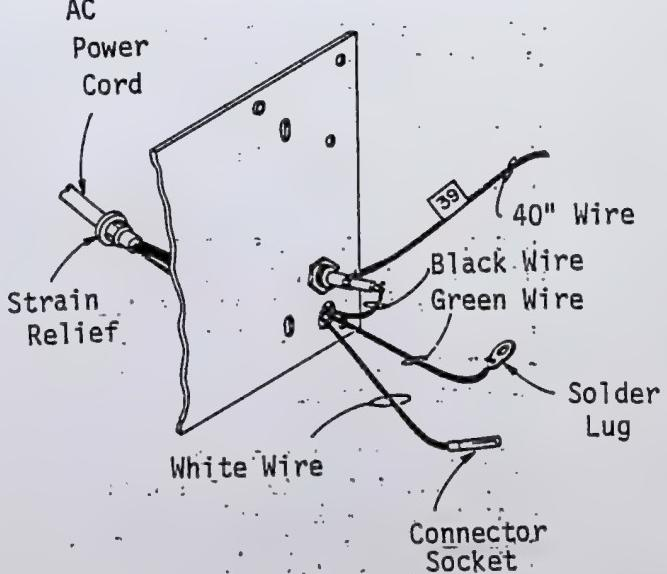

Figure 5-54. AC Power Cord Installation
**5-63. AC POWER CORD (Figure 5-54)**
2. Put the strain relief (Bag 2) on the cord and position it as shown in Figure 5-54.